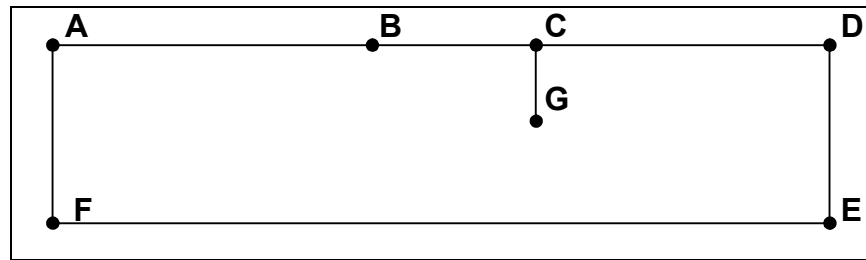

Figure 3-4 Arcs Connecting Points
2. Click on the existing points to create arcs between the points around the perimeter of the model. Start by clicking on point A, as shown in Figure 3-4, then B and so on to point F. Then double click on point A to finish creating the boundary.
4. Your model should now look like Figure 3-4.